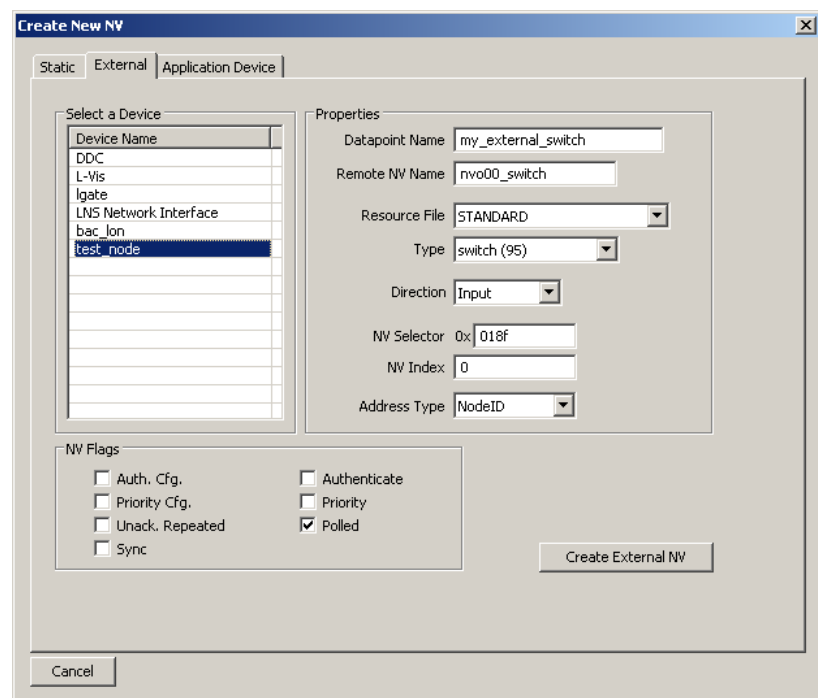

Figure 110: Create a new external NV.
3. Click on the tab **External** as shown in Figure 110.